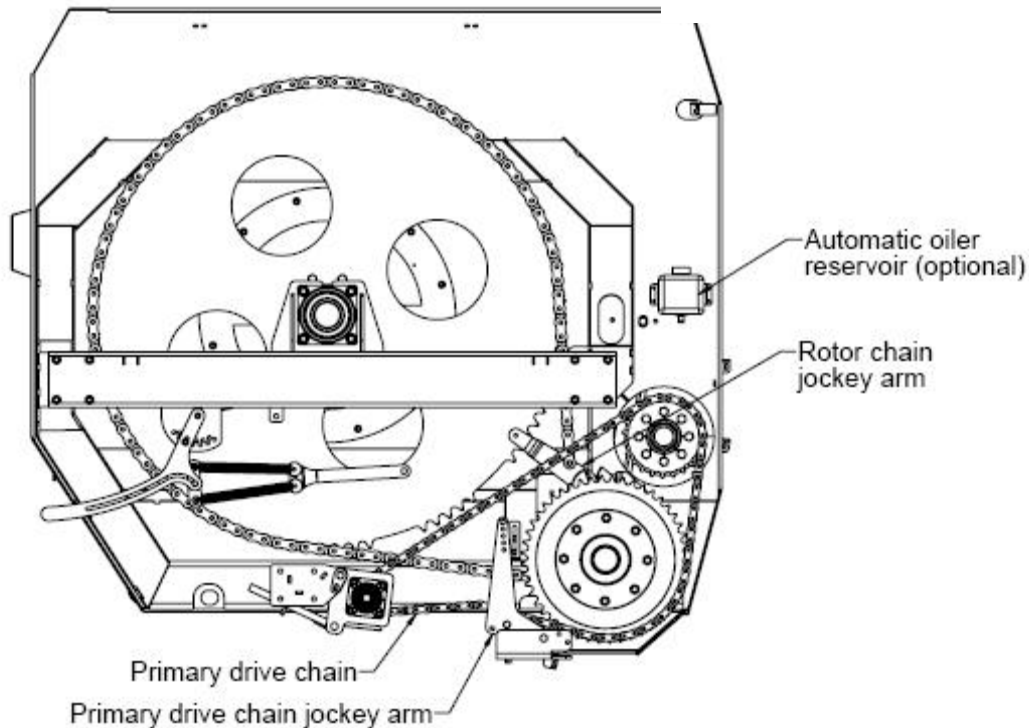

Figure 8. Front panel of Keenan K 160
1. Each week check the condition of the chain tension arms and adjust as required. There are two chains used on the K 160 model. The primary drive chain (ASA120) drives the idler shaft and the auger shaft from the input shaft, see figure 8 and the secondary chain (ASA160SH) drives the rotor. Both chains are tensioned by a spring assembly on the slack side of the chain.
2. Each day check the level of oil in the automatic oiler reservoir (if fitted) , figure 8. If the oil level is low, top it up with light oil, grade SAE 10 or similar.